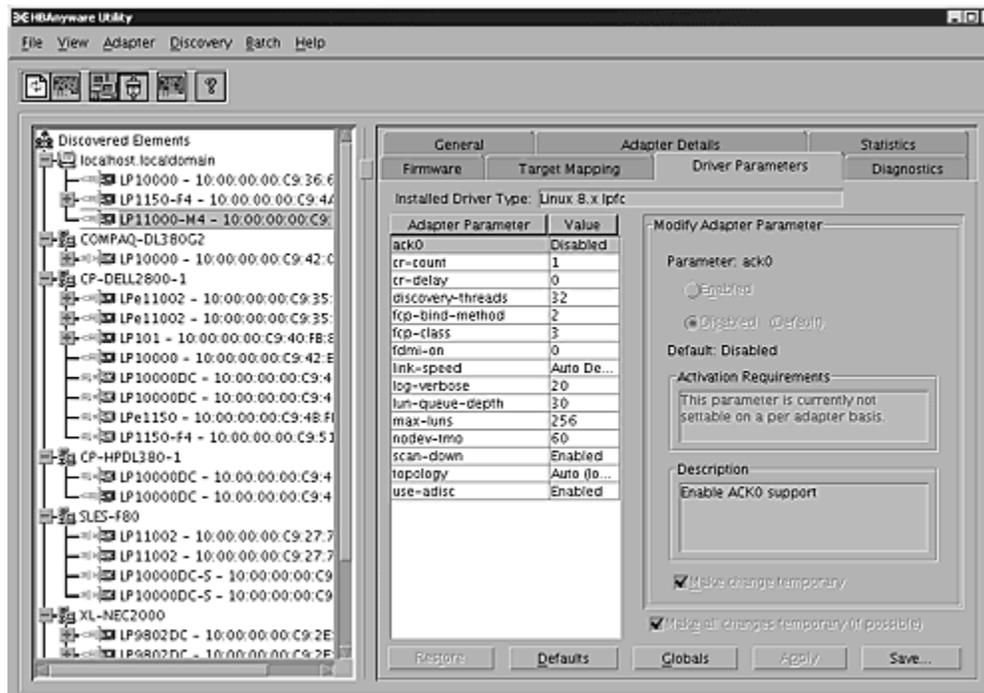

Figure 28: HBAnyware Utility, HBA Selected - Driver Parameters Tab
4. Select the Driver Parameters tab (see Figure 28). The parameter values for the selected HBA are displayed.
3. Select the Driver Parameters tab. Set driver parameters (see Figure 28 on page 90).